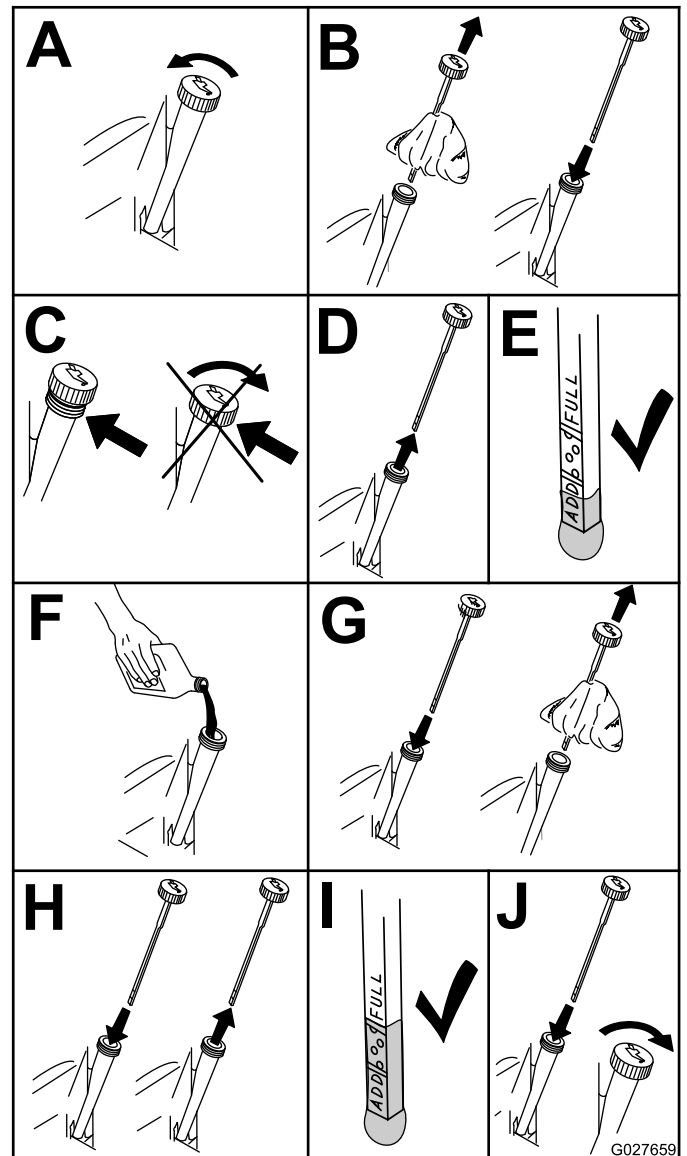

Figure 40
3. Check the engine-oil level as shown in (Figure 40).